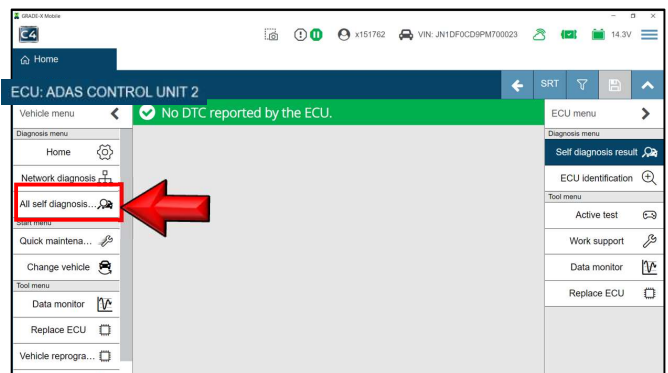

Figure 38
36. Select **All self-diagnosis**. (Figure 38)